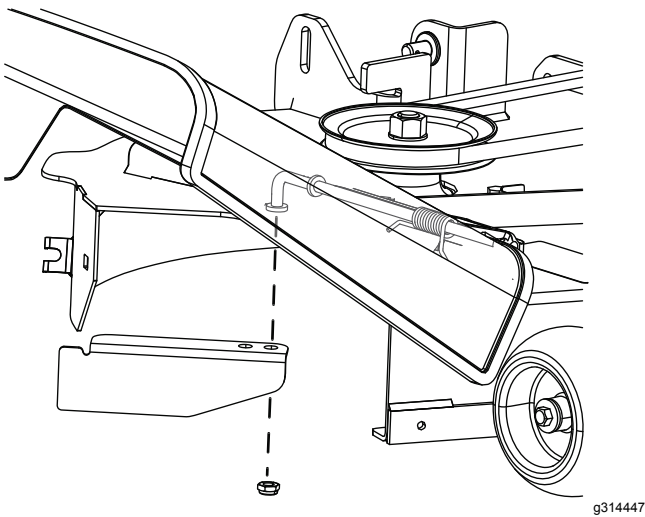

Figure 1
4. Remove the nut securing the cutoff baffle to the deck and remove the cutoff baffle (Figure 1).